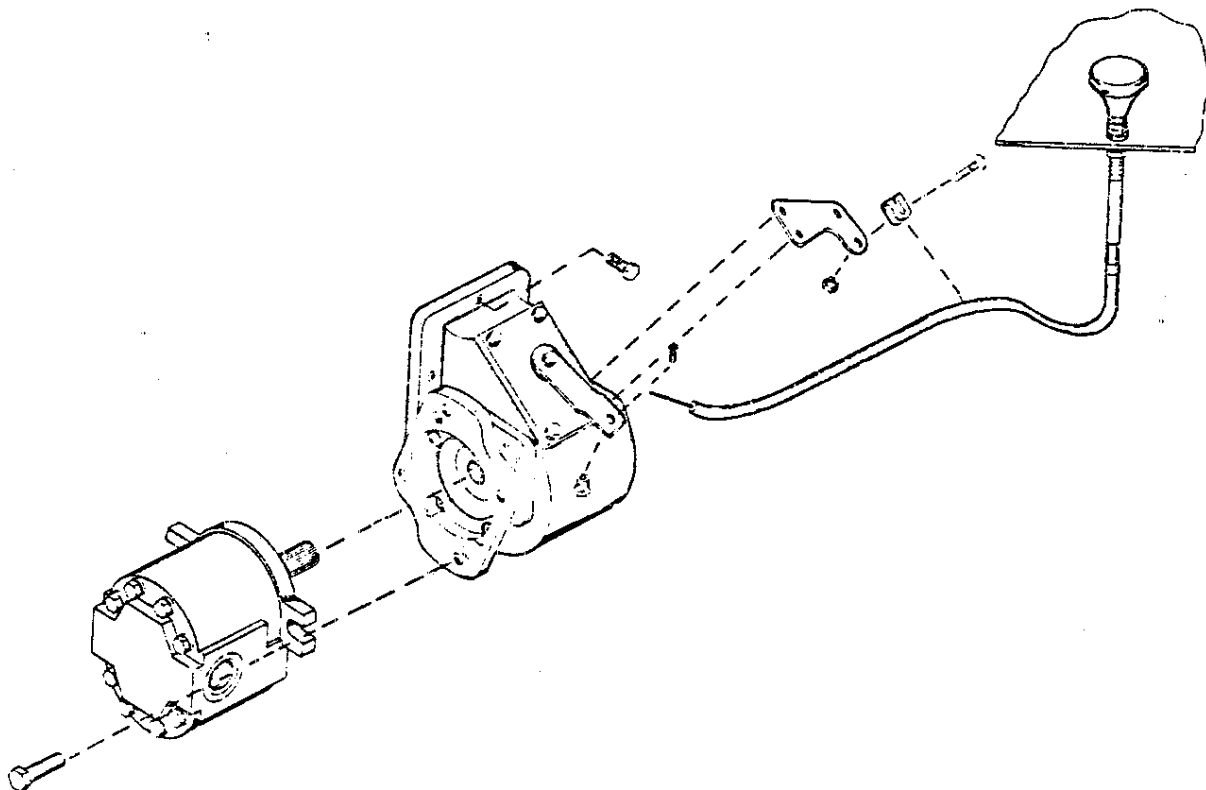
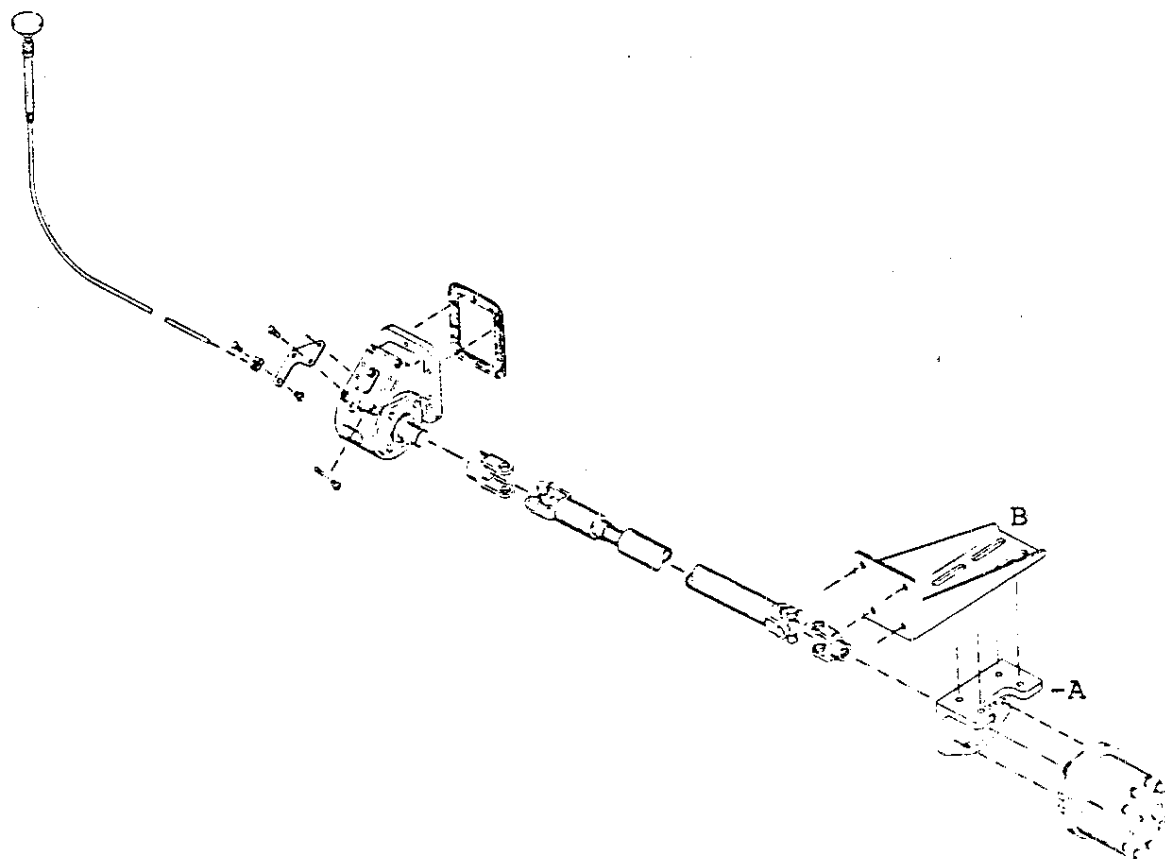

Fig. E-6
Fig. E-7
3. Install PTO in accordance with manufacturer's instructions (see Fig. E-6 or Fig. E-7, pages 5-8 or 5-9).